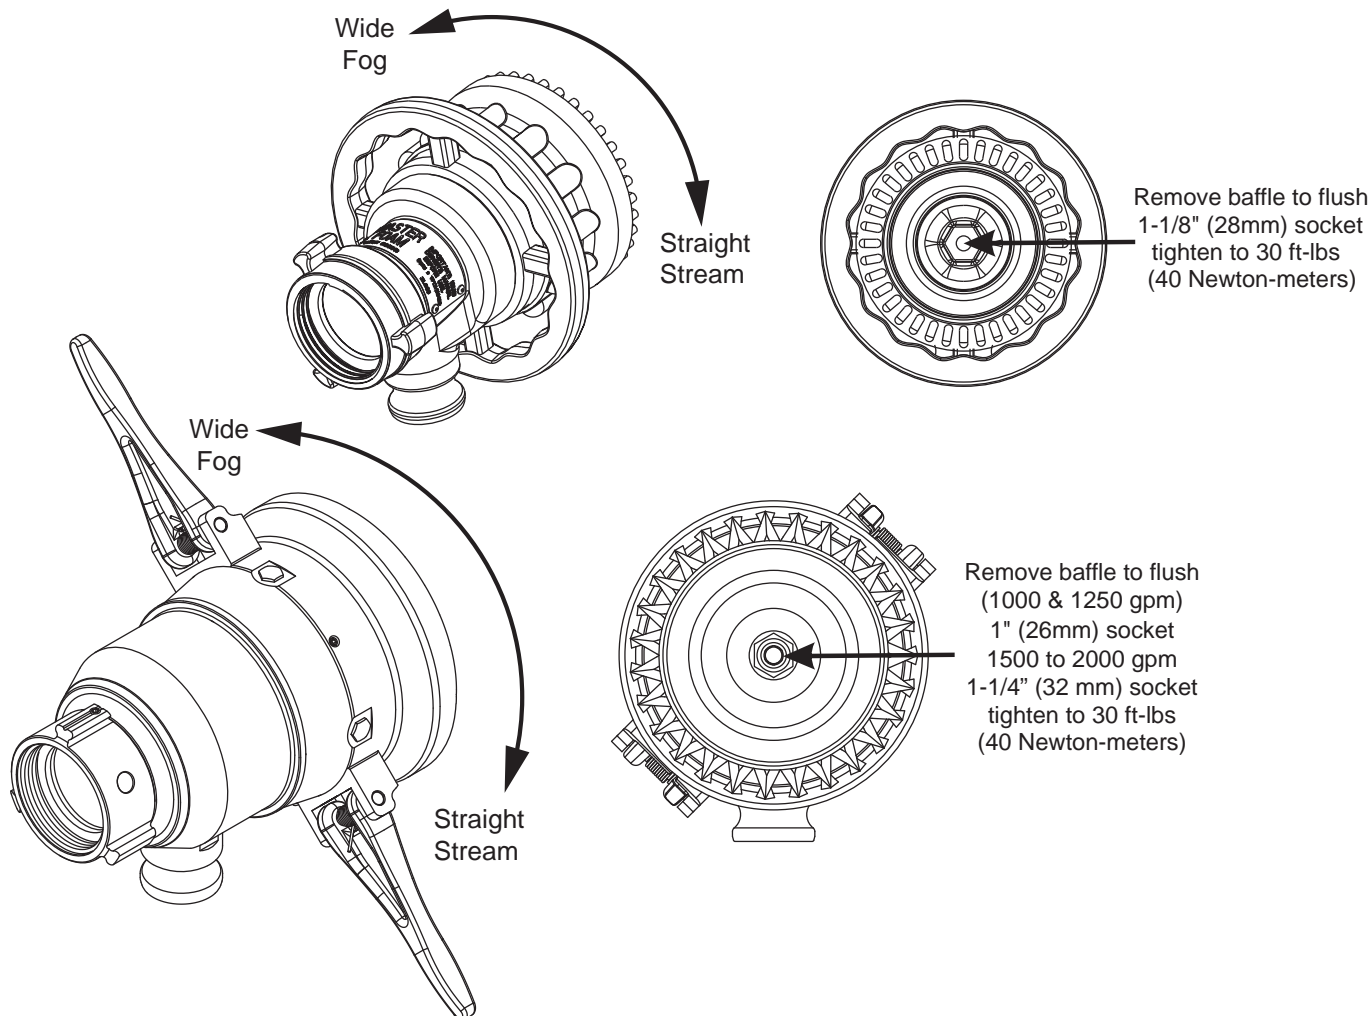

Fig 6.1 Pattern Control and Flushing
The MASTER FOAM's spray pattern is adjustable from straight stream to a 90° wide fog. Turning the stream shaper clockwise (as seen from the operating position behind the nozzle -see figure 6.1) moves the shaper to the straight stream position. Turning the shaper counterclockwise will result in an increasingly wider pattern. Only 90° of rotation is required to go from wide fog to a straight stream.
- Unscrew baffle using socket specified in figure 6.1